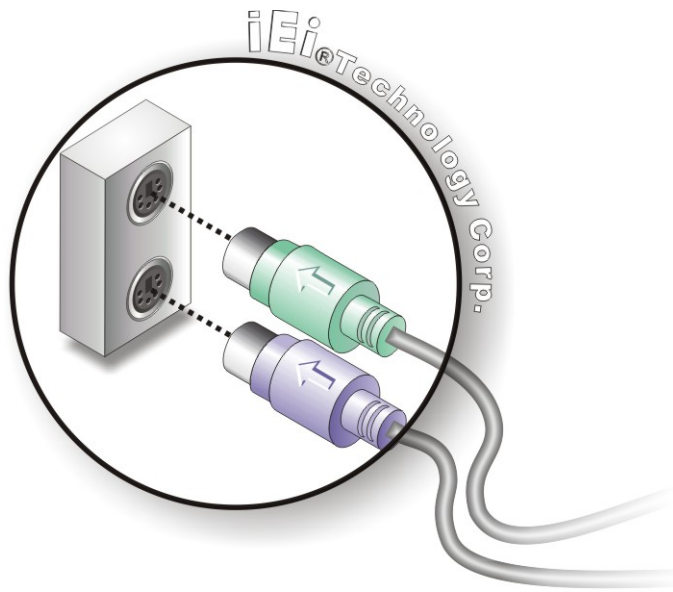

Figure 4-18: PS/2 Keyboard/Mouse Connector
Step 2: **Insert the keyboard/mouse connector.** Insert a PS/2 keyboard or mouse connector into the appropriate PS/2 connector on the external peripheral interface connector. See **Figure 4-18**.